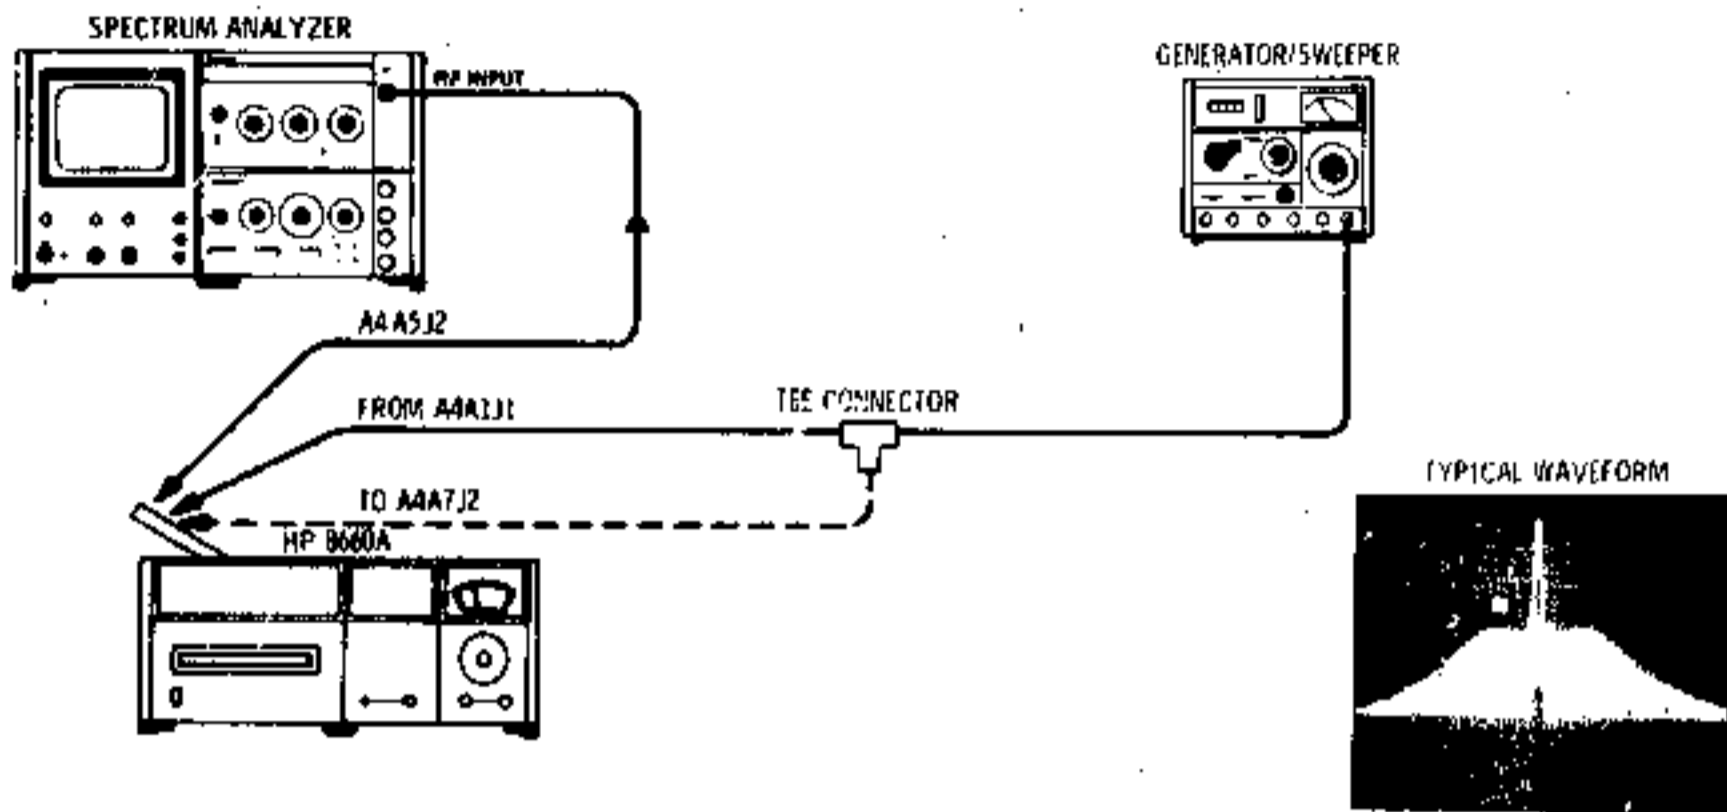

Figure 5-12. Loop Gain Adjustment Test Setup
4. Loop Gain Adjustment. (See Figure 5-12.)
c. Set the Signal Generator/Sweeper to 11.5 MHz CW at -35 dBm and symmetrical sweep width to 3 MHz. The analyzer display should be approximately as shown in the typical waveform shown in Figure 5-12. Adjust the A4A6R2 (GAIN) control for the response shown.